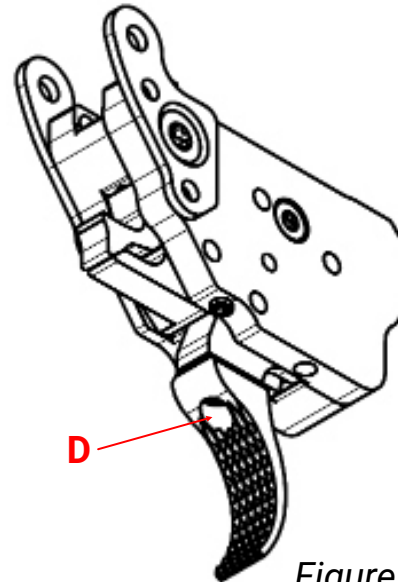

Figure 2
Figure 2 illustrates the location of screw **D**.
- Insert the **1.5 mm hex wrench** into **screw D** (see **Figure 2**).